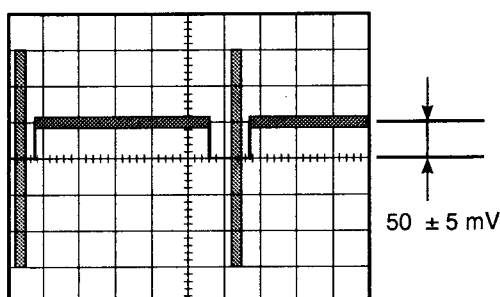

Fig. 5-9
- Adjust data with the **ARROW** keys so that the Pedestal level becomes 50 $\pm$ 5 mV as shown in Fig. 5-9.